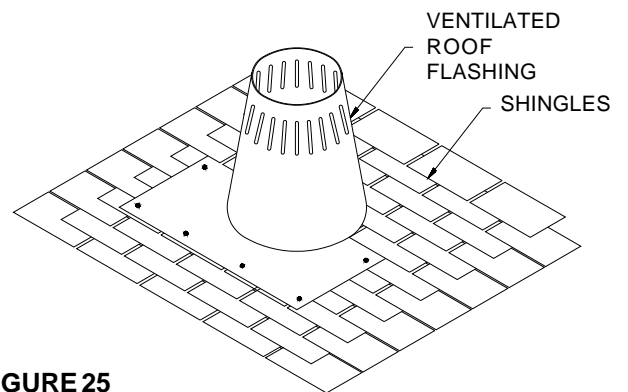

FIGURE 25
3. Slide the roof flashing suitable to your roof pitch over the chimney. Place the top edge of the flashing plate under the shingles. Place both sides and bottom edge on top of shingles. See figure 25.